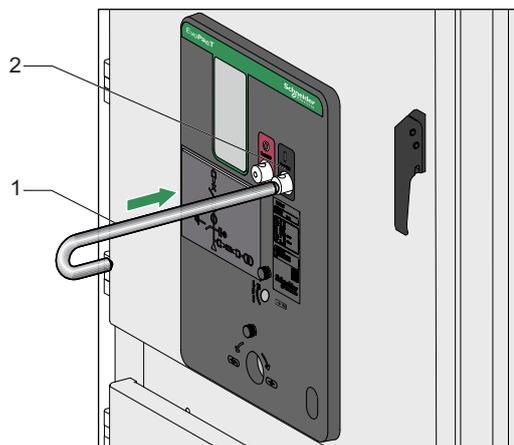

Figure 40
1. Take the push rod (1) from the transport trolley. Refer to Figure 40.
2. Insert the push rod (1) through switch ON guide (2) of the VCB front door.
3. Push the switch ON button with the push rod (1).